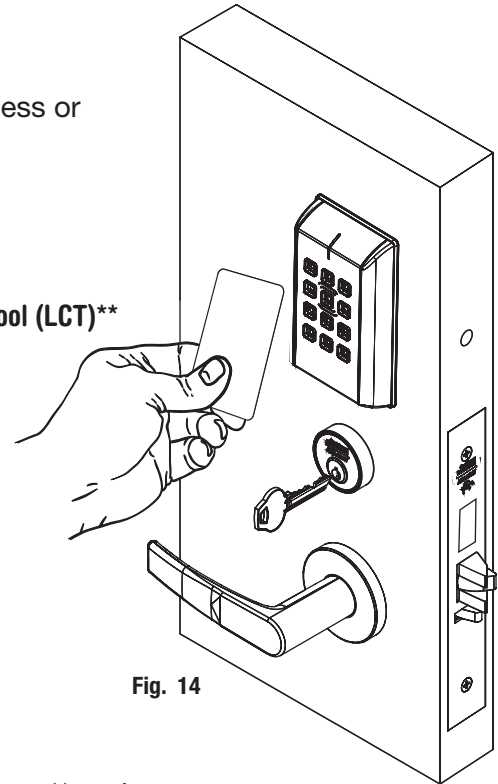

Fig. 14
- a. Insert key into cylinder and rotate (Fig. 14).